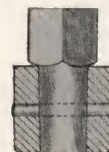

Fig. 2
- 3 Desk standard fitted to the base by a standard taper and pinned, making a joint that cannot loosen or twist. This joint is shown in detail in figure 2.